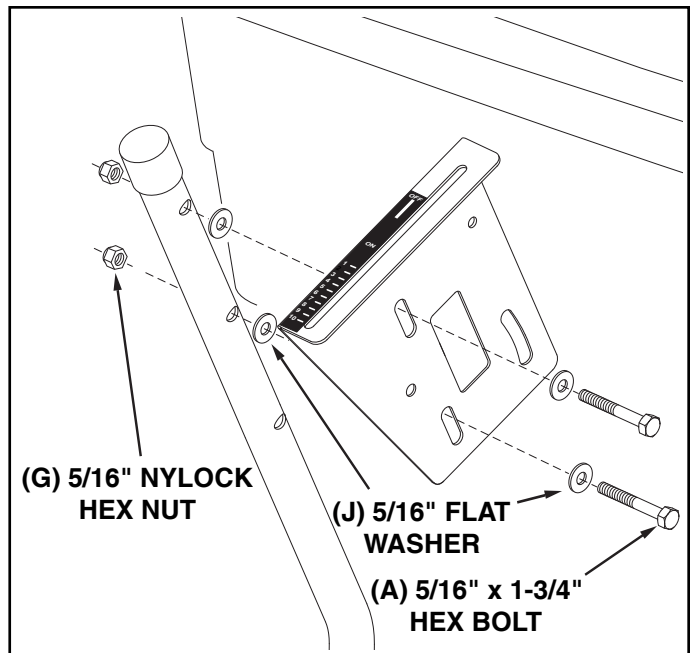

FIGURE 7
16. Assemble the flow control mounting bracket to the flow control mounting tube using two 5/16" x 1-3/4" hex bolts (A), four 5/16" flat washers (J) and two 5/16" nylock hex nuts (G). **DO NOT TIGHTEN YET**. See figure 7.